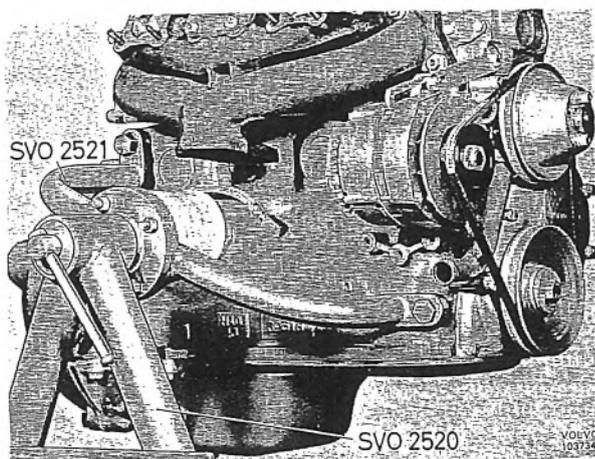

Fig. 2-14. Engine on stand
1. Place the engine on stand 2520 with fixture 2521 (see Fig. 2-14). Check that the oil has been drained off.